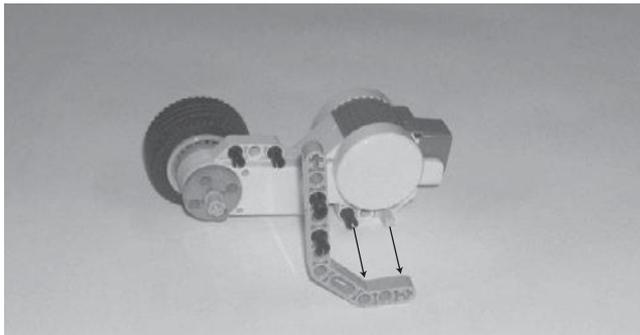

Figure 9.8
Step 4—Connect two connector pegs with friction to a 3×7 double broken angle beam, as shown in Figure 9.8, and then connect the double broken angle beam to the servo motor as also shown in Figure 9.8.